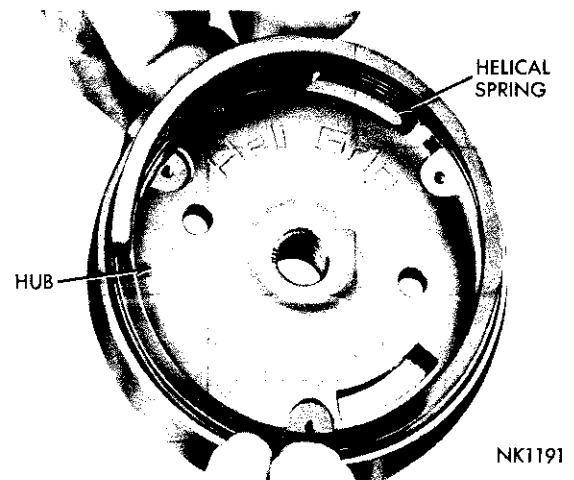
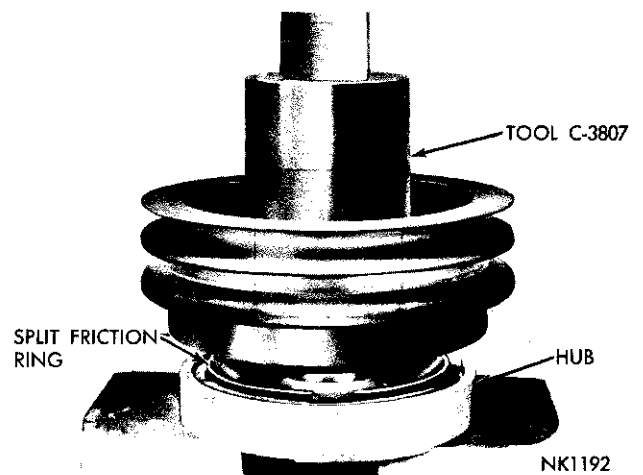

Fig. 32—Installing Helical Spring
Fig. 33—Installing Hub Assembly
(2) Start the flat end of the helical spring into the slot in the face of the hub and turn the spring in with a clockwise motion until the tang is positioned in the hub. Install the three retaining washers and screws; tighten securely (Fig. 32).
(3) Place the hub with the face down in an arbor press; install the split friction ring in the spring with the bevel side up.
(4) Start the drive hub into the inner bearing race; place Tool C-3807 against the bearing and press the hub into position with an arbor press (See Fig. 33).
(5) Install the bearing retaining snap ring and hub retaining snap ring.